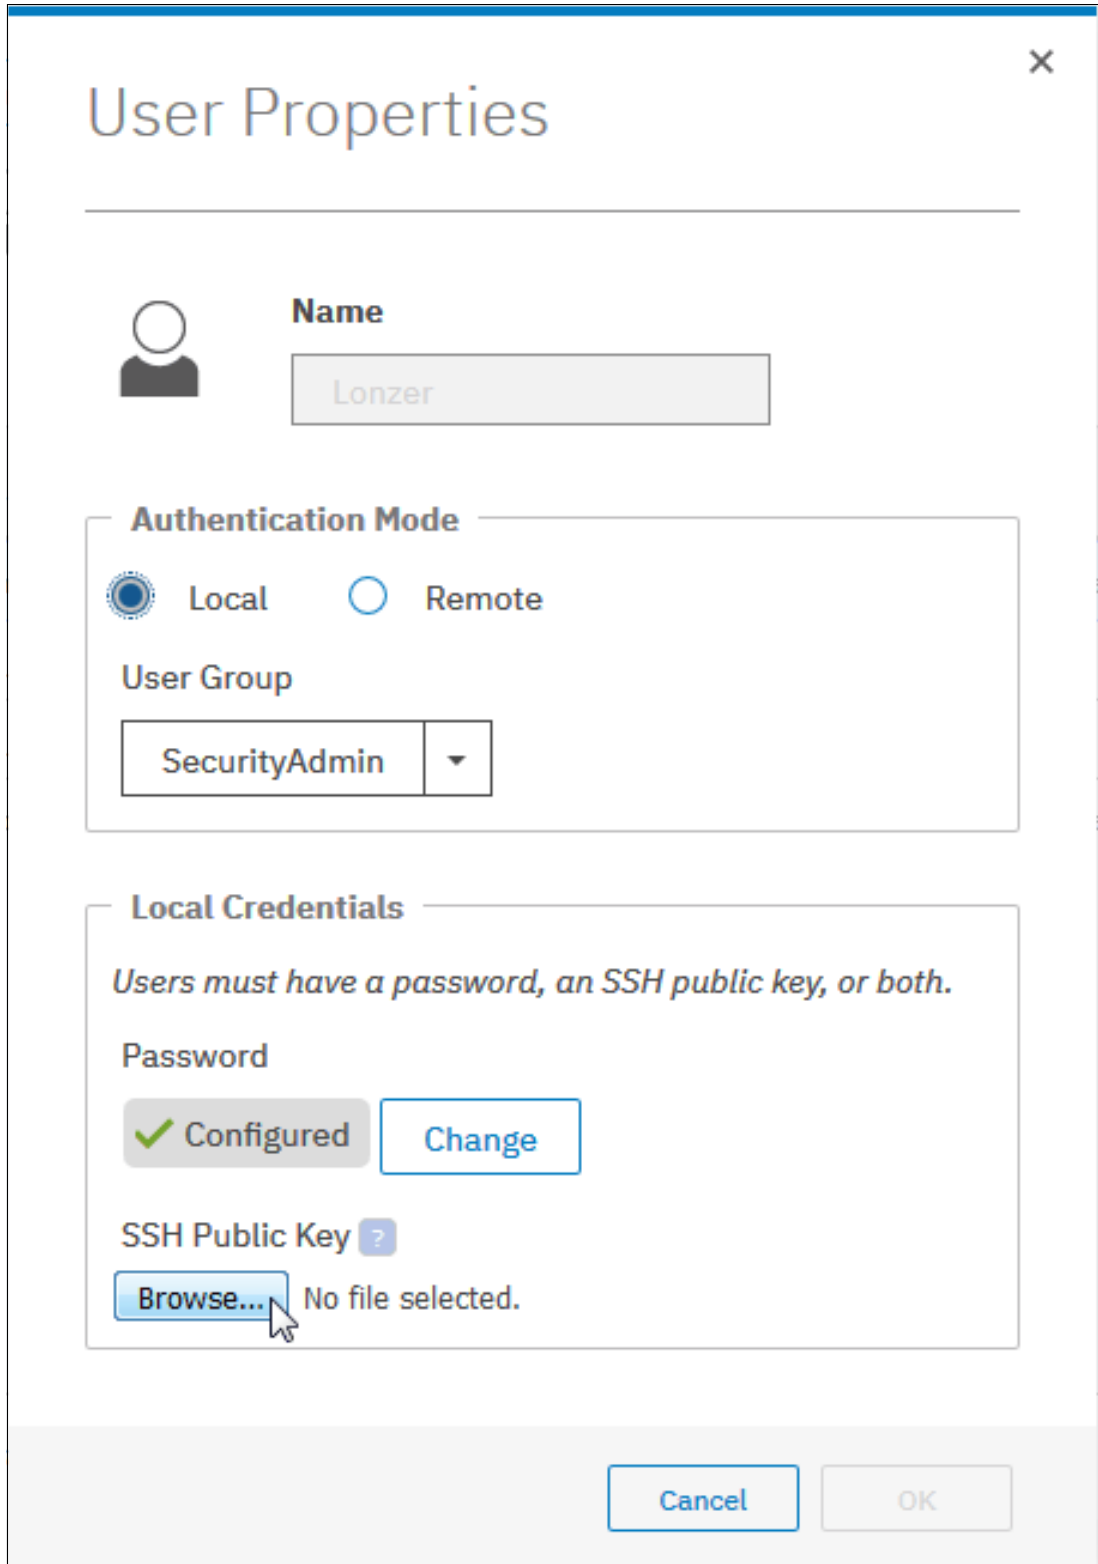

Figure A-9 Select public key
3. To upload the public key, click **Browse**, and select the folder where you stored the public SSH key (see Figure A-9).